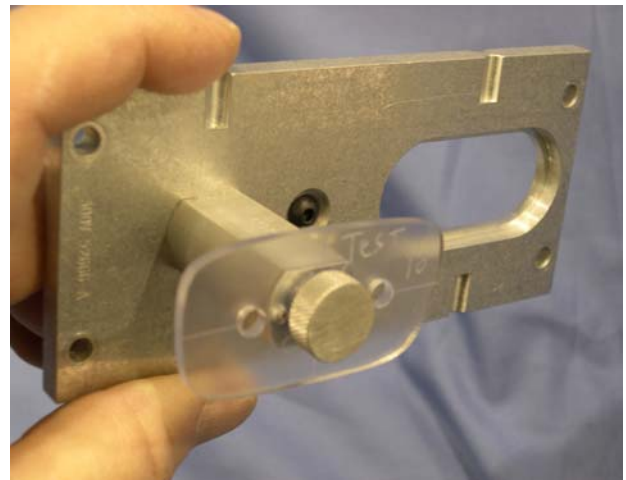

Figure 3.3: Pattern mounted on Lens/Pattern holder.
1. Attach the pattern to the Lens/Pattern holder via the registration pins. Secure the pattern with the pattern retainer. See Figure 3.3 to the right.